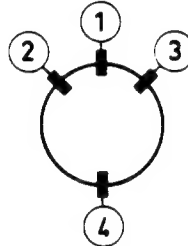

Fig. 4c
- Now place wedge ④ as shown in figure 4c or 5c, remove the paper strip and firmly press the adhesive side of this wedge against the glass of the picture tube cone.